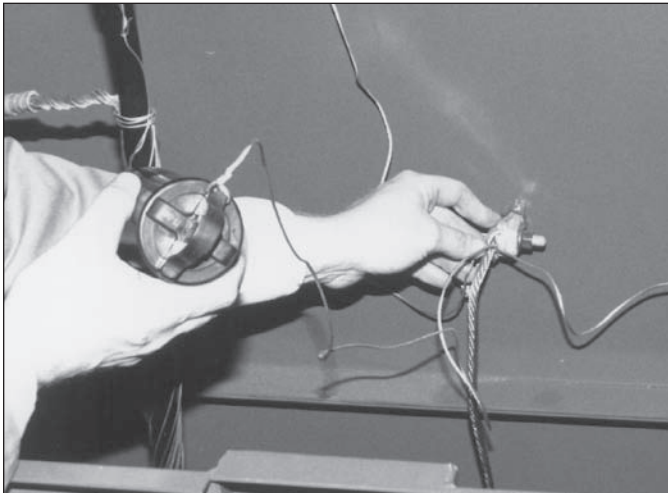

Figure 2.
- Always attach drain wire to system ground bus (Figure 2).